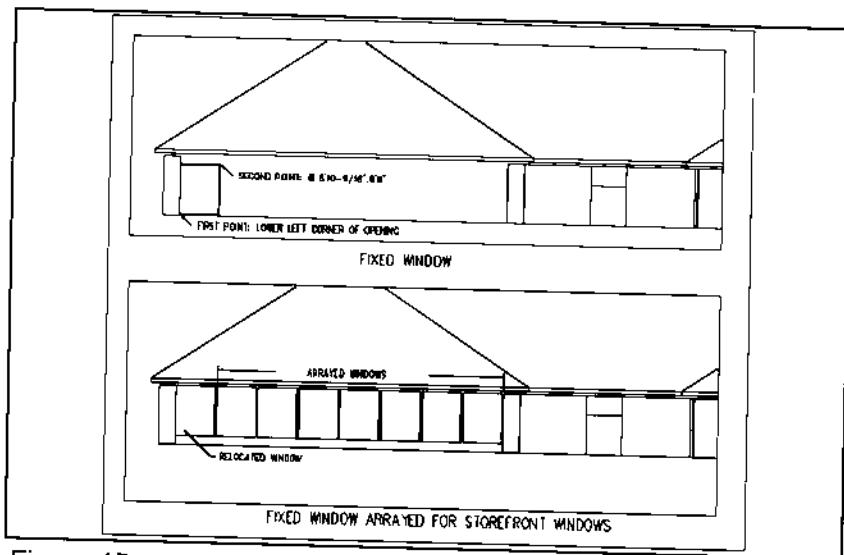

Figure 15.
- Insert the first Fixed window at the lower left corner of the Storefront opening as shown in Figure 15, relocate it, and then use the AutoCAD Array command
- > Pick lower left corner point of opening (ENDpoint): [select a point as shown in Figure 15 at lower left corner of storefront opening area along the construction plane)]